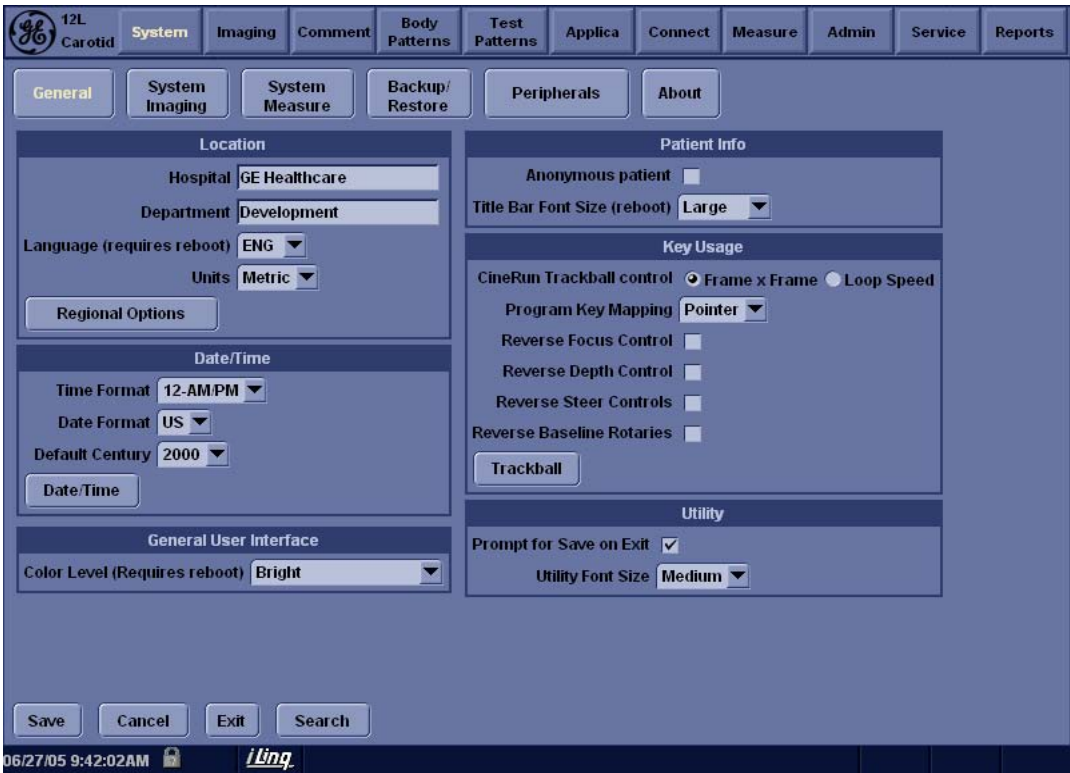

Figure 6-9 Utilities Menu
- 2.) Press the **Utilities** button on the front panel and enter the utilities mode as shown in Figure 6-9